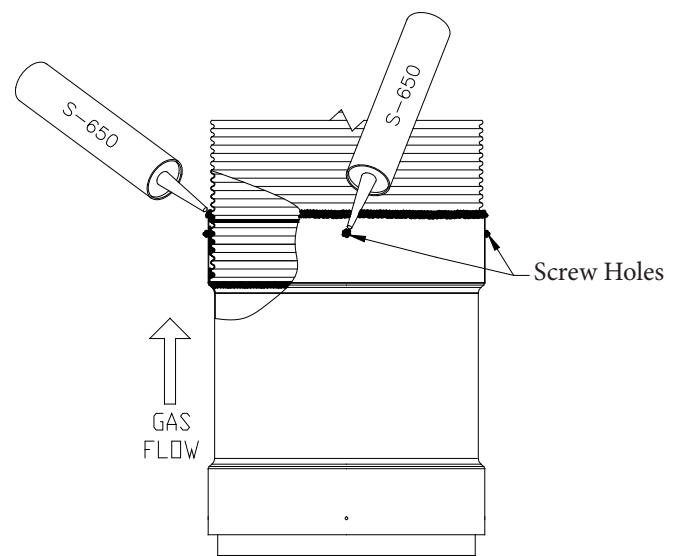

Figure 20- SecureSeal Flex S-650 caulking
- 2.3. Add a bead of the S-650 red caulking all around the outer junction of the adapter and the flexible liner to make sure everything is well sealed. Also add over the screw holes (Figure 20).